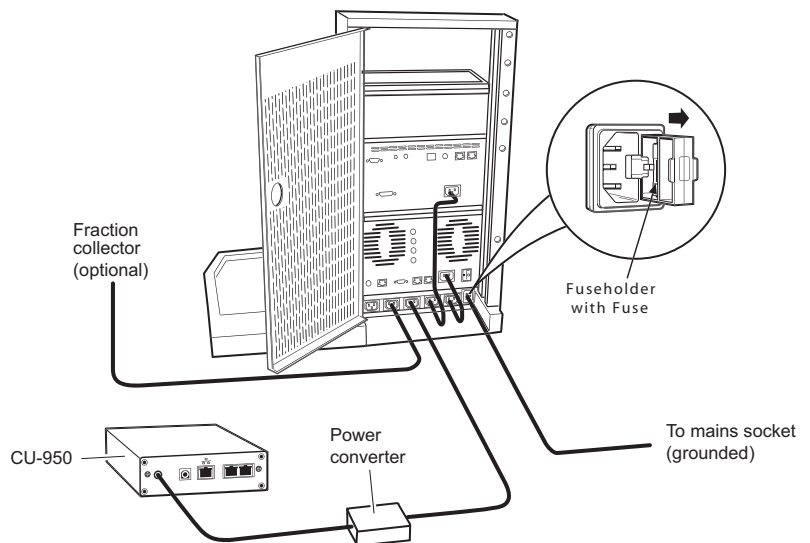

Fig 2-3. ÄKTApurifier UPC, the connections on ÄKTApurifier are similar
- 4 Connect a mains cable supplied between ÄKTApurifier and a properly grounded mains socket according to *Figure 2-3*.